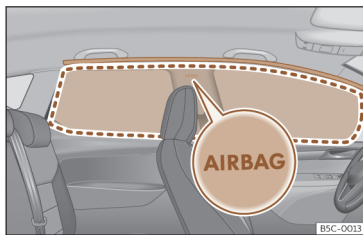

Fig. 32 Location of head-protection airbags.
>>> **Fig. 32** and their location is indicated with the word “AIRBAG”.
The framed area is covered by the head-protection airbag when it is deployed (deployment area) >>> **Fig. 32**. Therefore, objects should never be placed or mounted in this area >>> ⚠.
- Ensure that children are correctly seated in their seats and that their heads are not in the deployment zone of the head airbags >>> **Fig. 32**, as deploying airbags could hit them and cause serious injury.